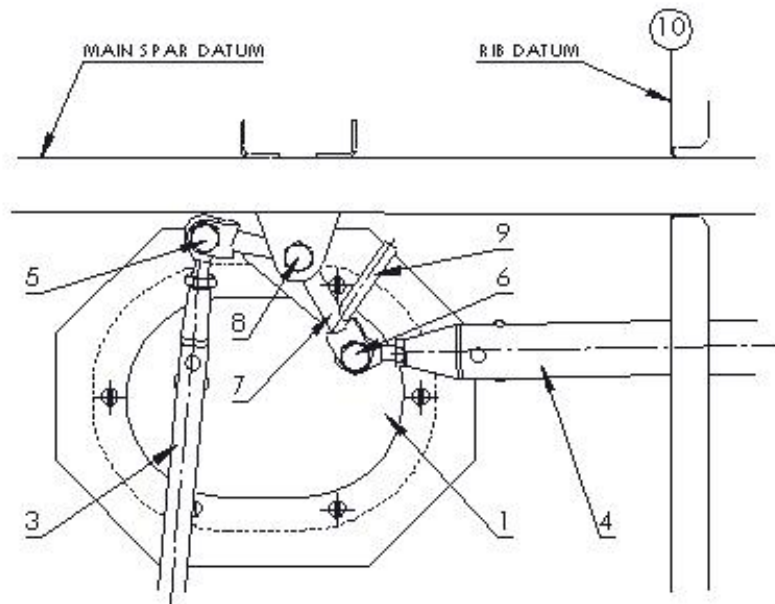

Fig. 6-10
Disassembly is identical for the left and the right wing (see Fig. 6-10).
- Set the bellcrank (7) to the position (see Fig. 6-10), insert the bolt (8) to the hole in the bellcrank and brackets and secure it with self locking nut.
- According to the Fig. 6-10 connect push rods (3) and (4) to the bellcrank .